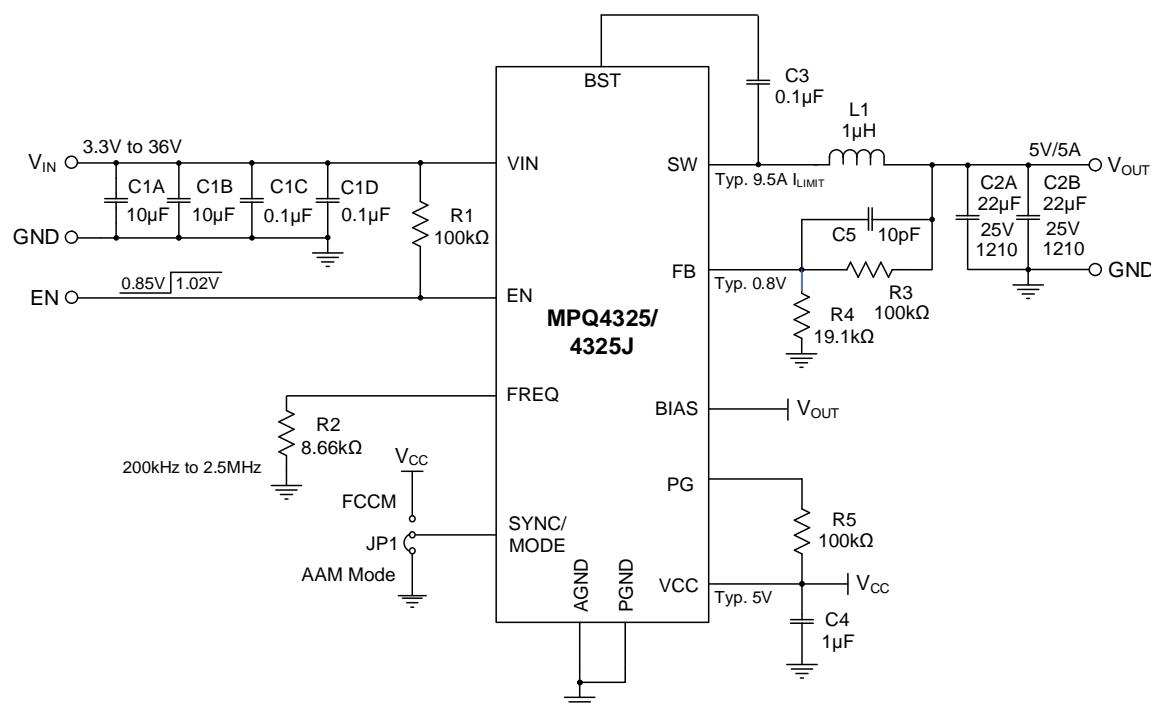

Figure 13: Typical Application Circuit ($V_{OUT} = 5\text{V}$, $f_{sw} = 2.2\text{MHz}$)
15) The recommended PCB layout is based on Figure 13 on page 45.